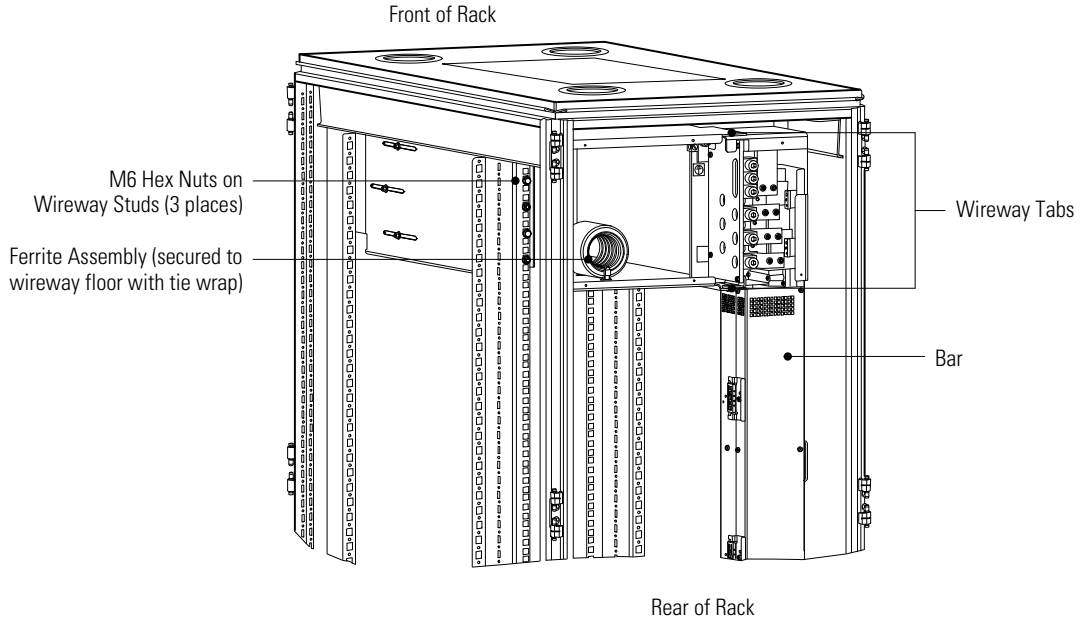

Figure 14. Ferrite and Bar Placement
4. Install an M6 hex nut onto each of the three wireway studs to secure the wireway to the rear of the rack. Install the first stud in the third hole location from the top. Do not tighten the nuts. Figure 14 shows the nuts installed.
9. Place the ferrite assembly on the floor of the wireway and secure with the supplied tie wrap. Loop the tie wrap through both attachment sites on the wireway floor and through the ferrite assembly. See Figure 14.
11. Place the bar in the rack as shown in Figure 14.
NOTE The bar can rest on a support until secured in place. After complete installation, the bar will be secured to the rack and wireway as shown in Figure 14.
NOTE Verify that the bar is secure as shown in Figure 14. The sheetmetal at the top and bottom of the of the terminal block assembly should fit between the wireway tabs.